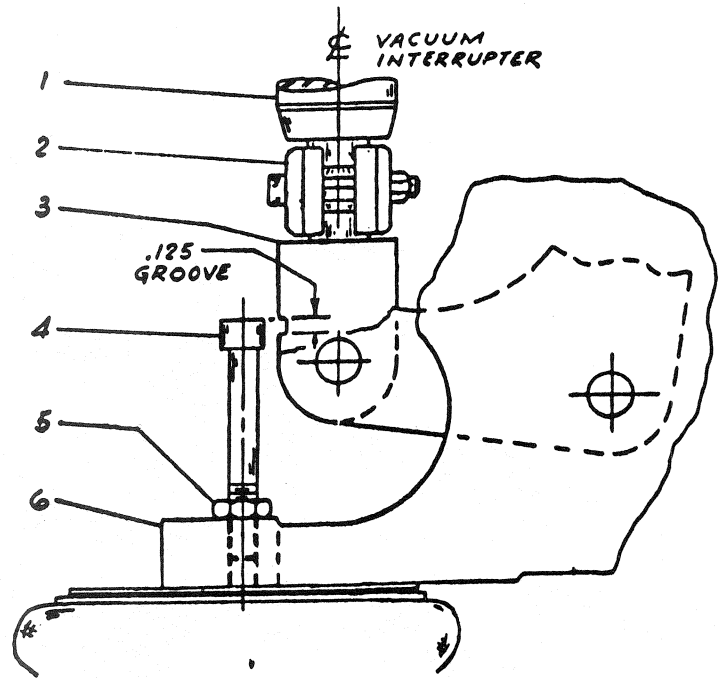

FIGURE 14 EROSION INDICATOR (BREAKER CLOSED)
Refer to Figure 14. In the closed position the top of the indicator bolt (4) will line up with the top of the .125" wide groove in the coupling (3).